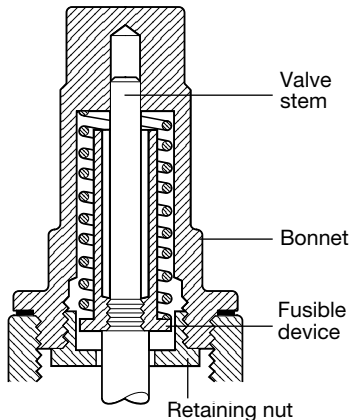

Fig. 7
4.4 SBRA valve with fusible device (refer to Figures 7 and 8)
- Isolate the valve and unscrew the bonnet (see Figure 7).